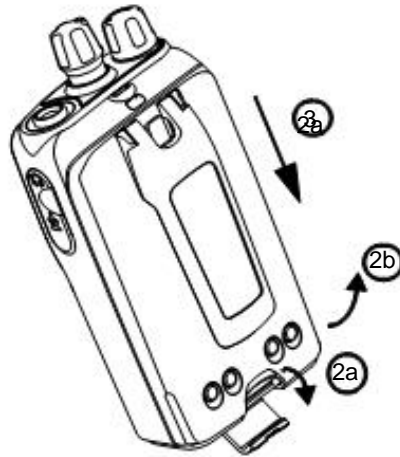

Figure 2-1
2. Unlatch the battery latch at the bottom of the radio (see “Figure 2-1”). Remove the battery by gently lifting the hilt of the battery, nearest to the battery latch, away from the housing.